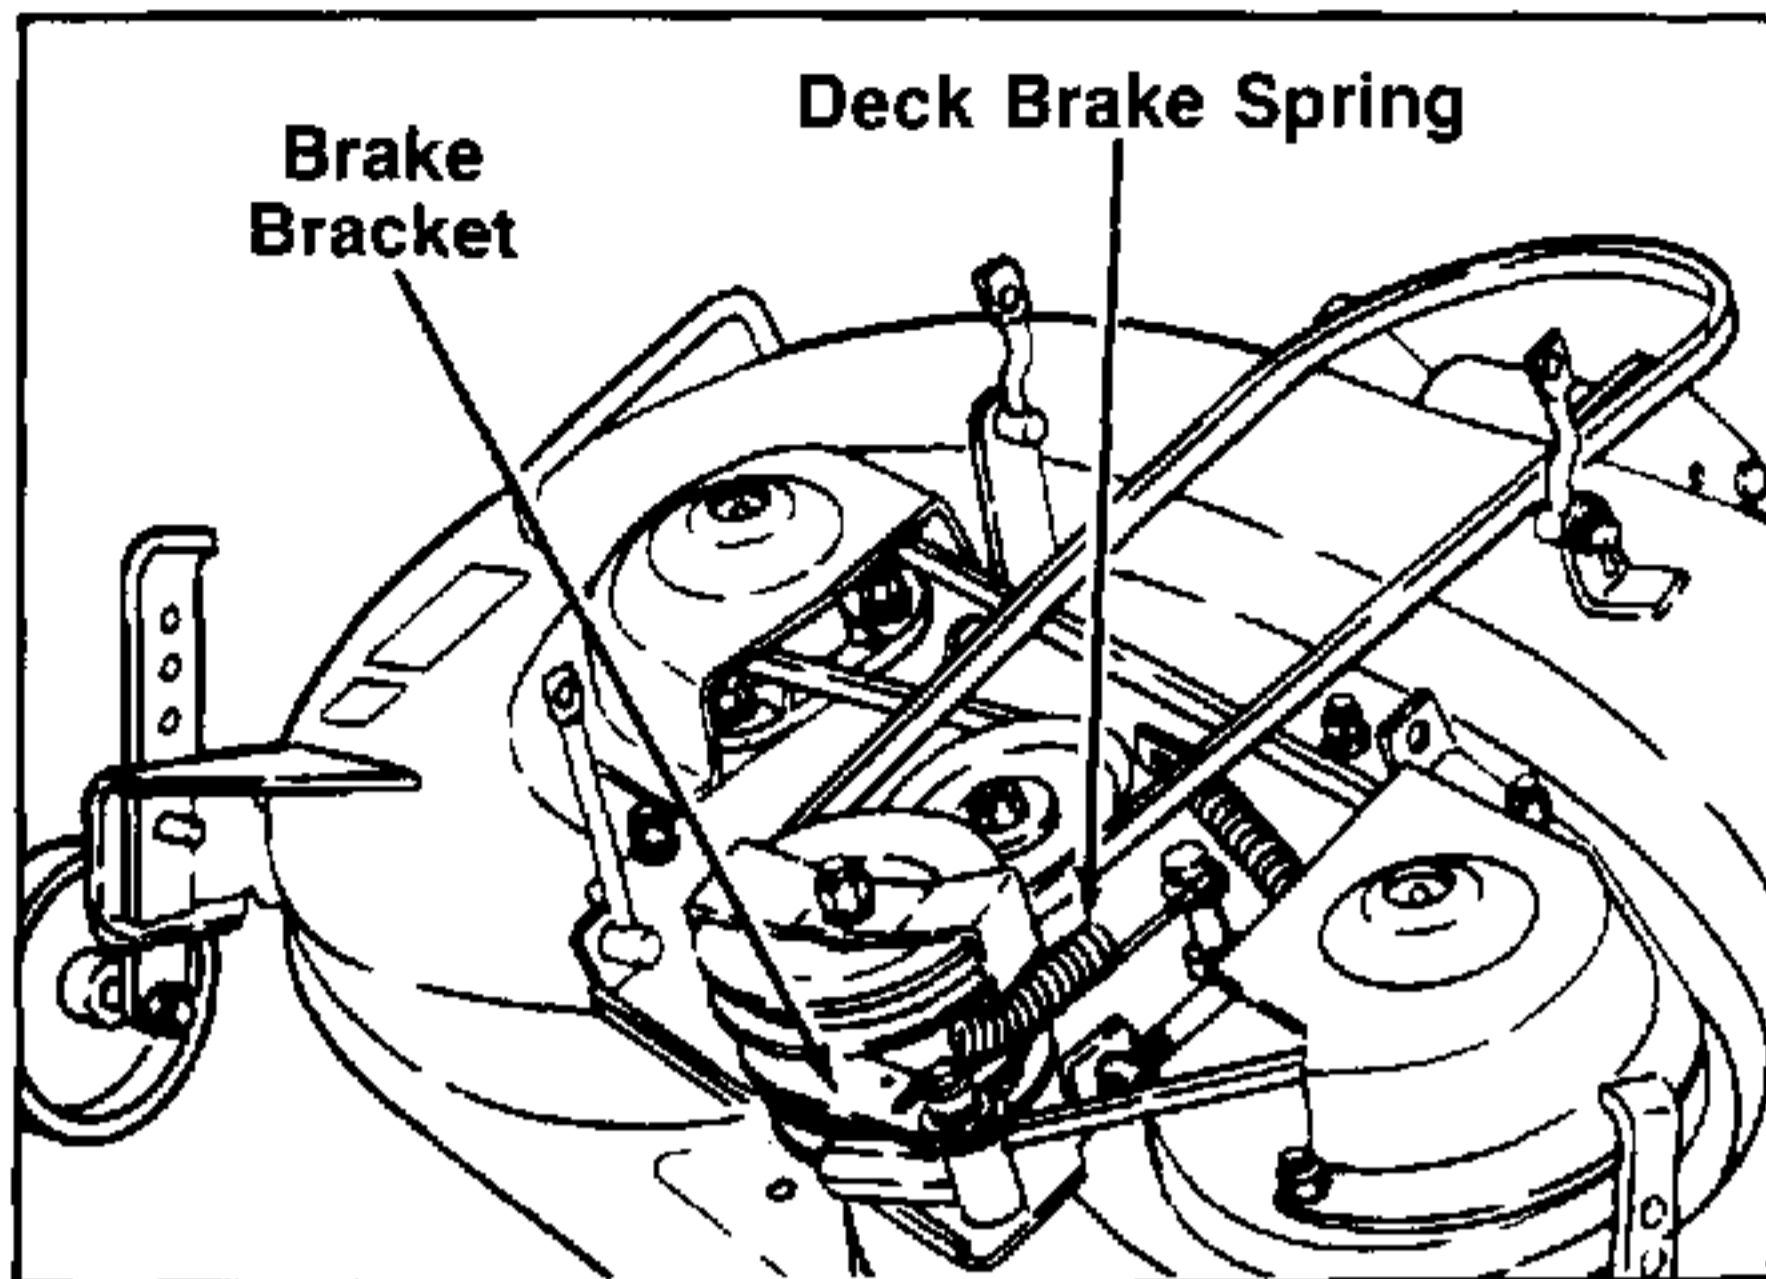

FIGURE 24.
3. Refer to figure 24. Release the deck brake spring from its attachment to the brake bracket. Swing the brake bracket assembly toward the right side of the deck to allow the belt to be removed.